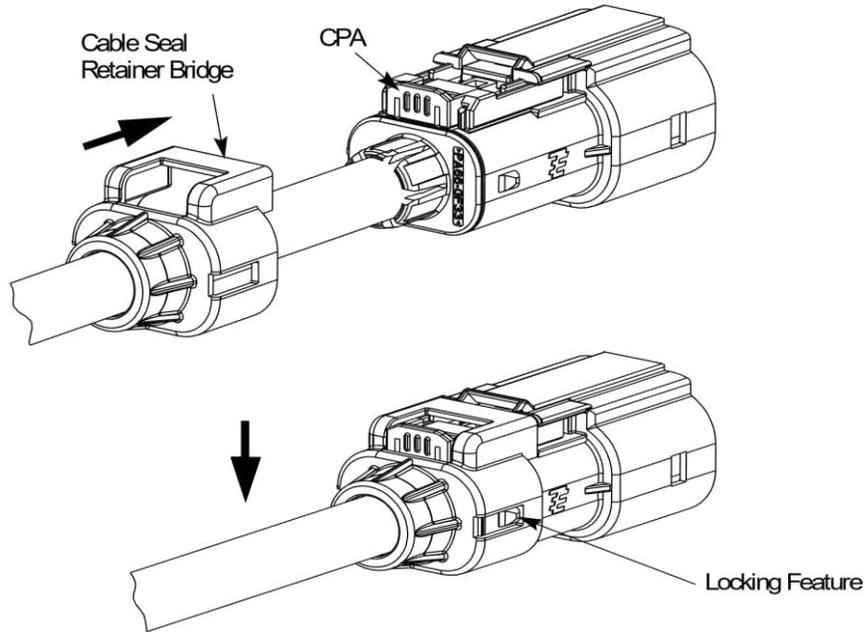

Figure 19
3.6.16. Slide the cable seal retainer forward on the cable and over the cable exit end of the connector assembly until it fully locks to the connector outer housing. A slight rotation of the cable seal retainer may be required to get the bridge portion over the CPA. Visually check to ensure that both locking features are engaged and the CPA is in the correct position as shown in Figure 19. Gently pull back on the cable seal retainer to check that it is fully locked in place.